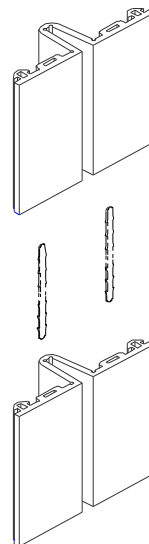

Figure 7
STEP 4. Select splice pins for the seal (one pin per splice slot in the face seal). Insert each splice pin half way into its corresponding splice slot in the face seal. Align the mating seal sections with one another. Insert the other half of the splice pin into the splice slots in the mating section of the face seal. Press the mating sections of the face seal together, compressing the caulk and providing a seal at the splice, see Figure 7.